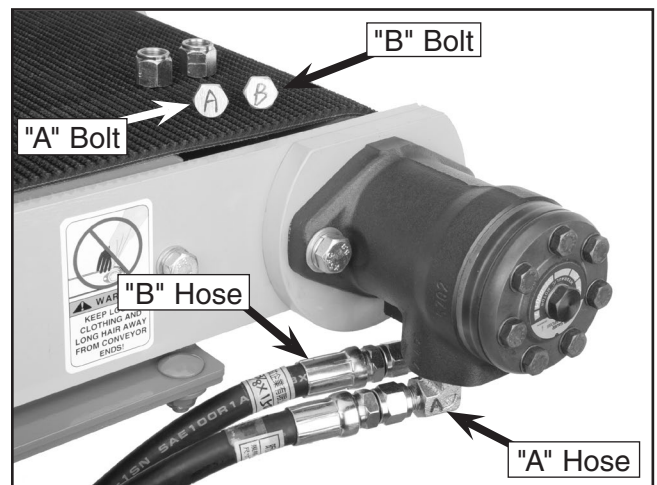

Figure 11. Connecting the hydraulics.
3. Thread the "B" hose into the elbow fitting as shown in **Figure 11** and tighten.